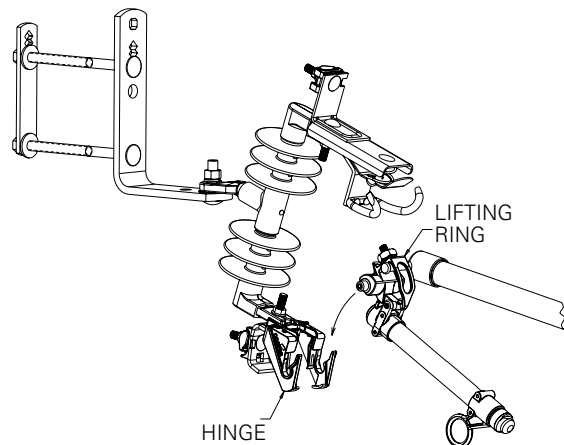

Figure 7. Inserting the fuseholder into the UltraSIL Polymer-Insulated or Porcelain Type L cutout.
2. Place the fuseholder into the hinge of the cutout (See Figure 7).